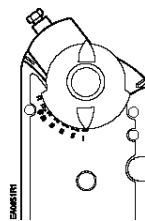

Figure 6.
- e. Place the position indicator to the "0" position on the outside scale. See Figure 6.
5. Remove the shaft adapter and insert it with the position indicator pointing to the mark on the scale calculated in the previous step. See Figure 6.